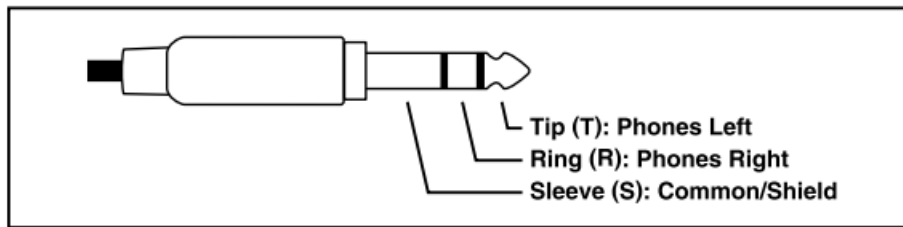

Figure 5. Stereo line in (TRS) connection pinout chart
- Located on the back panel, the jack is labeled Stereo Line In and is specifically provided to allow direct interconnection with a personal computer's analog line output. (This is typically the light-green-colored jack on a personal computer.) Using a standard patch cord with 3-conductor (TRS) 3.5 mm plugs on each end will make interconnection very simple. As is standard for personal computers and other personal electronics, the Model 207A implements the jack such that left channel audio is on the tip lead, right channel audio is on the ring lead, and common/shield is on the sleeve lead. Refer to Figure 5 for a detailed view of the appropriate mating plug.